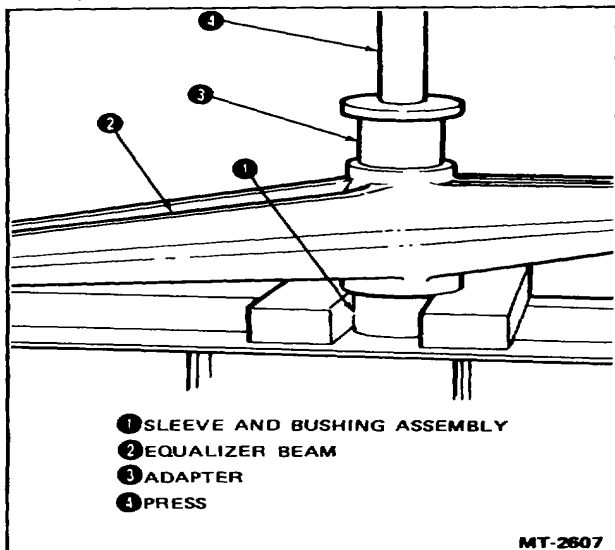

Figure 11 - Removing Equalizer Beam Center Sleeve and Bushing
1. Support beam in press. Using adapter made from appropriate size standard tubing to fit against center sleeve and bushing assembly, press out bushing assembly. See Figure 11.